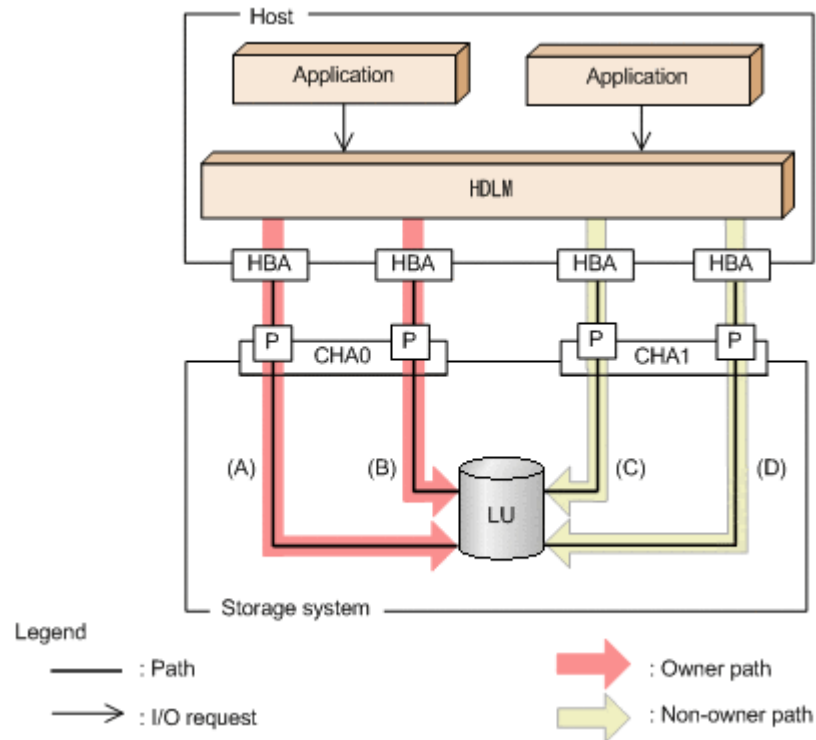

Figure 2-9 Overview of Load Balancing
For the example in Figure 2-9 Overview of Load Balancing on page 2-14, suppose that in the owner controller of LU0 is CHA0. When the LU is accessed, the load is balanced between the two paths A and B, which are both owner paths. When one of the paths (A) cannot be used, then the LU is accessed from the only other owner path (B). When both of the owner paths (A and B) cannot be used, the load is then balanced between two other, non-owner paths (C and D).